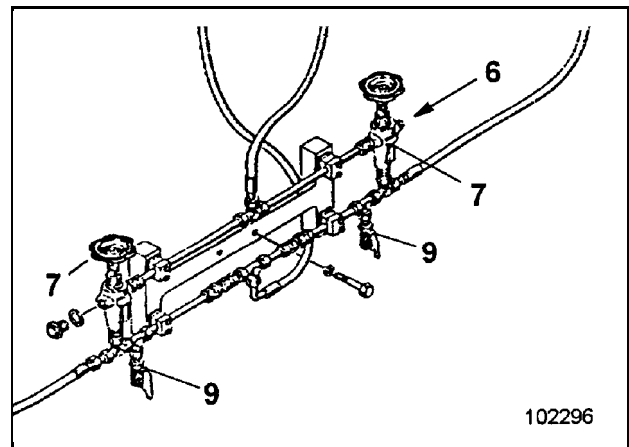

Fig. 5
- open both pressure limiting valves (7, Fig. 5) to slacken the tracks.
- After the work, screw down the pressure limiting valves (7) to the limit stop.